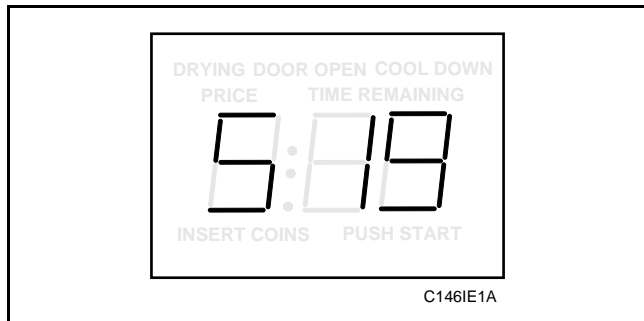

Figure 76
2. While pressing and holding the HIGH TEMP pad with one hand, press the MED TEMP pad with the other hand. Programmable option number 1, (Audio Signal “SIg”), will appear in the VFD, see *Figure 76*.